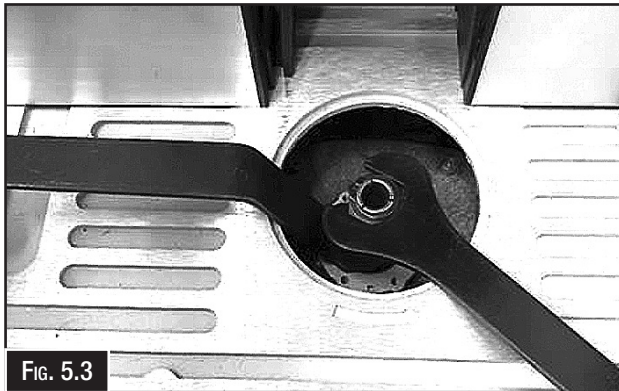

FIG. 5.3
- At least 3/4 of the cutting bit shank must be gripped in the collet before tightening. (Fig. 5.3)